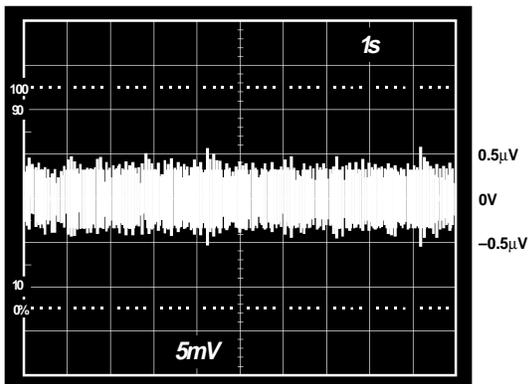
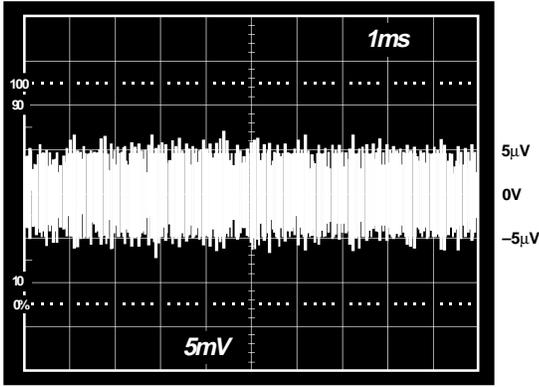

Figure 17. Low Frequency Voltage Noise from 0.1 Hz to 10 Hz*
Figure 19. Voltage Noise from 0 kHz to 10 kHz*
*The photographs in Figure 17 through Figure 19 were taken at $V_S = \pm 15\text{ V}$ and $T_A = +25^\circ\text{C}$, using an external amplifier with a gain of 1000.